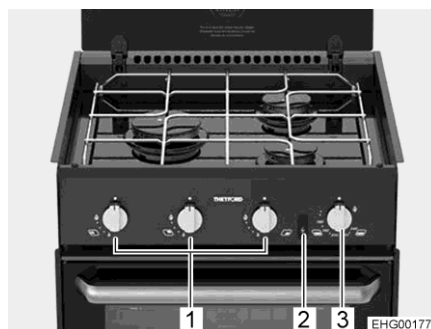
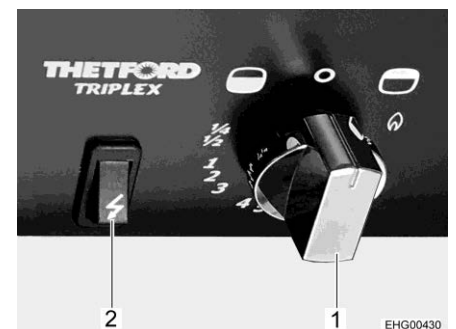

Fig. 230 Cooker with gas burners
Fig. 231 Operating controls (gas oven with grill)
- Press control knob (Fig. 230,1) of the desired burner, turn it to the ignition position (large flame), and hold it until the flame is burning (for a maximum of 15 seconds).
- Press the control knob (Fig. 230,3 and Fig. 231,1) and set it to the maximum setting anticlockwise (towards the oven symbol "🔥").
- Press the control knob (Fig. 230,3 and Fig. 231,1) and hold it down for 5 to 10 seconds. Gas will stream into the burner.
- Keep the ignition switch (Fig. 230,2 and Fig. 231,2) pressed until the flame burns.
- Press the control knob (Fig. 230,3 and Fig. 231,1) and turn it clockwise (towards the grill symbol "") in the direction of the flame symbol.
- Turn control knob (Fig. 231,1) to "O". The flame fades.